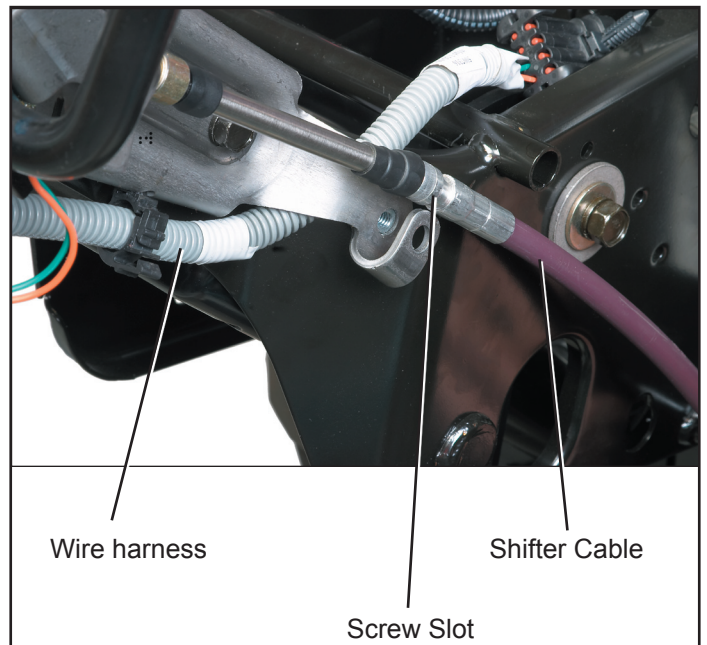

Figure 7 - Shifter Cable Screw Slot
4. Align the slot in the cable with the shifter cable screw(2) making sure the screw secures the cable at this point. Torque to 65 in-lbs. See Figures 7 and 8.